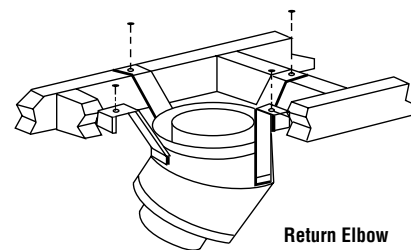

Figure 41
- Step 5.** Secure support straps to framing members by nailing under tension in shear (Figure 41).